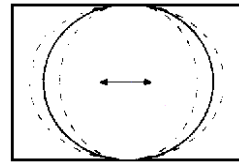

Fig. 1
- Adjust the horizontal location to obtain picture centering (Fig.1).